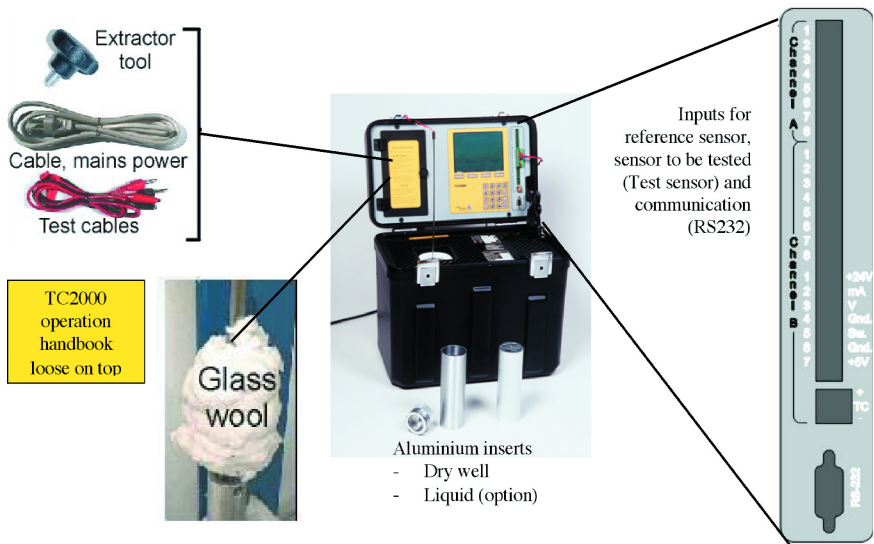

Figure 3. TC2000 Orientation and location of items.
- * Record any discrepancies from the inventory and/or visible damage to the unit; see Figure 3 TC2000 orientation and location of items.